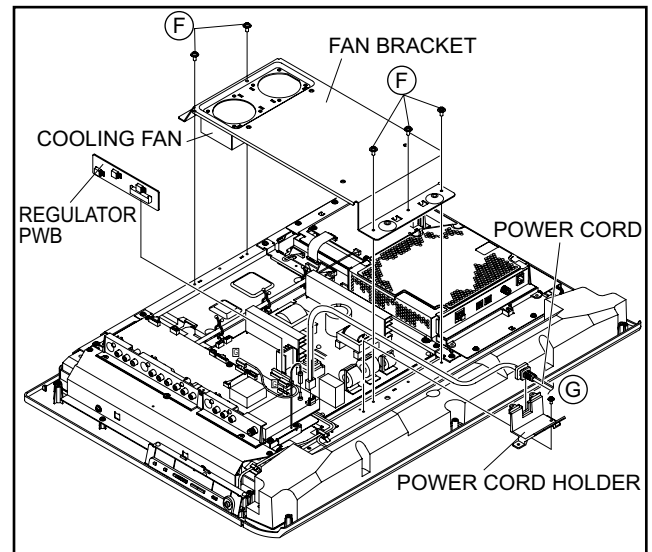

Fig.3-1-3
3.1.3 REMOVING THE FAN BRACKET, REGULATOR PWB AND POWER CORD (Fig.3-1-3)